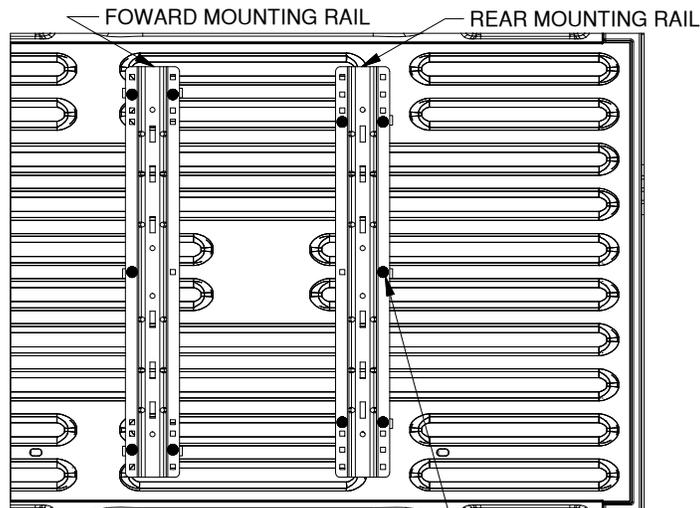

Figure A2: Detail view over bed, showing drill locations for the forward and rear bed rails.
- 2. Mark hole locations:** While carefully ensuring the mounting rail does not move, use a center punch tool to mark the 5 drill locations on the forward rail. See figure A2 for hole marking locations for this installation (rear rails will install on a later step). Once all 5 forward rail locations are clearly marked, move the bed rail out of the way and drill each location with an 1/8" drill.
- Drill rear mounting holes.** Using the same methods as used for the forward mounting rail, mark and drill the 1/8" holes for the rear mounting rail. Refer to "DRILL FORWARD MOUNTING HOLES" section, step 2, on a previous page. Notice that the hole locations are slightly different than the forward rail, see figure A2 (on the second page).